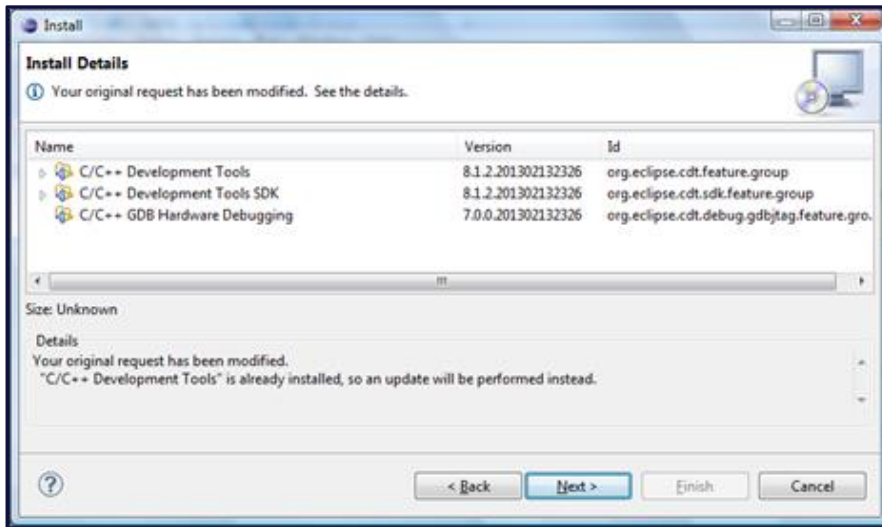

Figure 9: Completing installation
5. Proceed through the installation by clicking **Next** in the windows that follow (Figure 9).